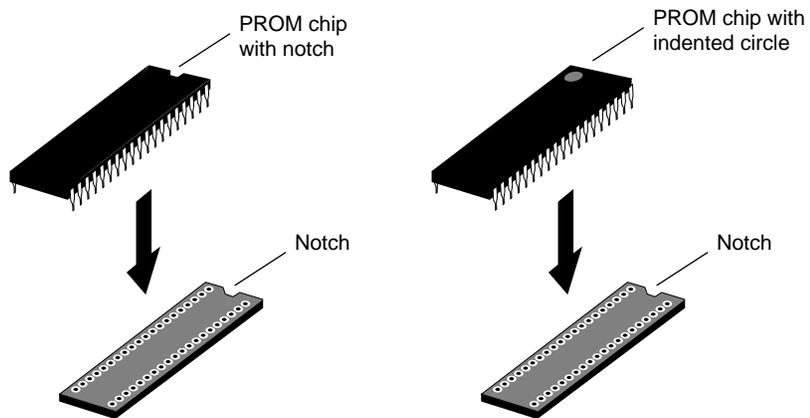

Figure 2-14 Lining Up the PROM Chip
- Grasp the new PROM chip. Orient the PROM above the socket on the system board so the end with the semi-circular notch or small, indented circle on the PROM chip lines up with the notch in the socket, as shown in Figure 2-14.